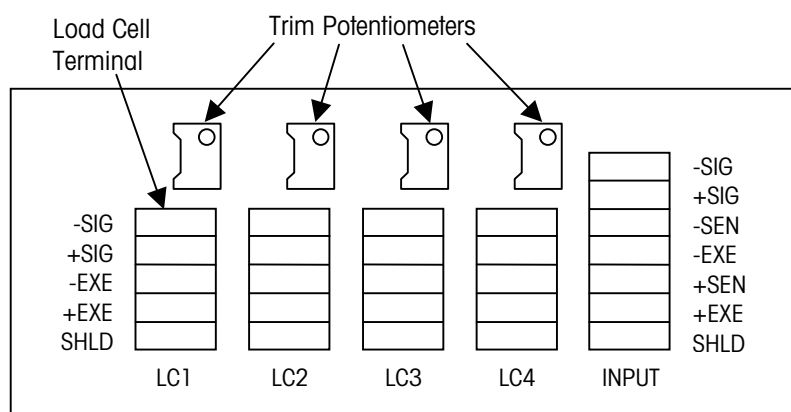

Figure 5-2: Load Cell Trimming Potentiometers
3. Place the test weight at the location immediately clockwise from the location at which you got the lowest weight reading. Then adjust the trimming potentiometer for the load cell that corresponds to the corner of the scale where the test weight is positioned (see Figure 5-2). Make the adjustment by turning the potentiometer until the weight reading matches the lowest reading.